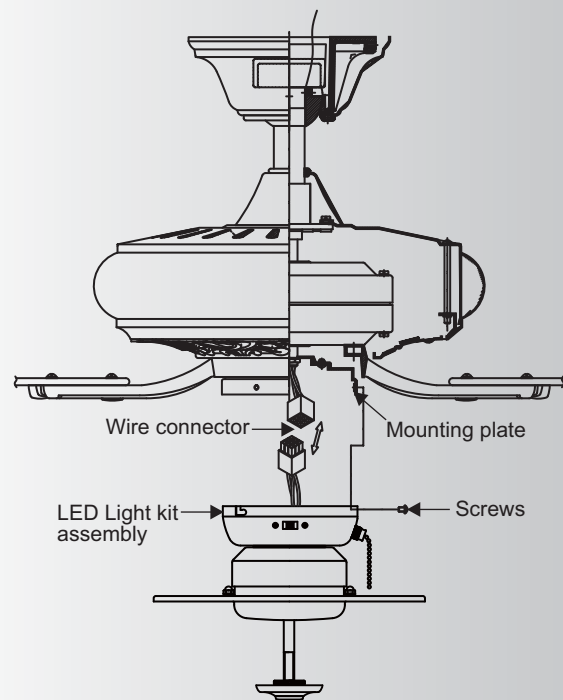

Fig. 2
4. Raise and hold the LED light kit assembly close to the mounting plate of the ceiling fan. Push the square wire connectors together. (Fig. 2)
5. Carefully push all wires back into the switch housing, then install the LED light kit assembly onto the mounting plate with 3 screws provided. Be sure to tighten all screws. (Fig. 2)